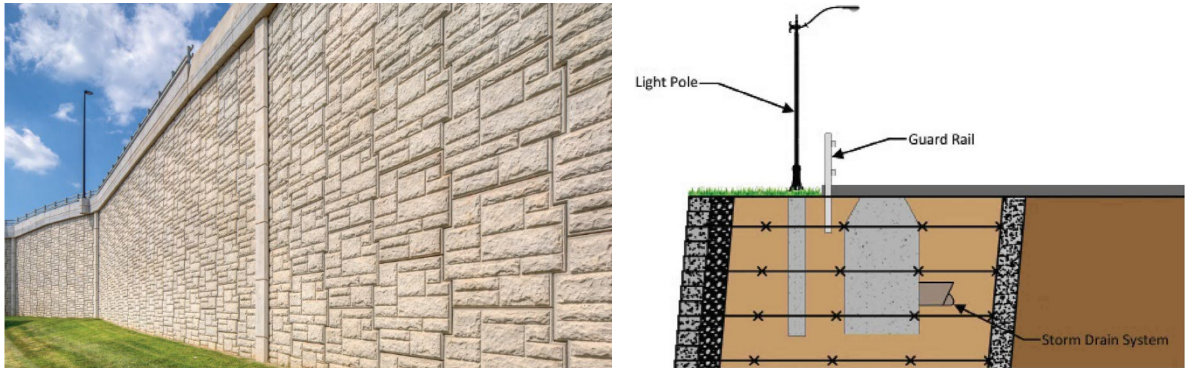

Figure 1: Examples of MSE walls
2. **Background** – MSE walls have roots to prehistoric builders who used sticks and branches to reinforce soil structures. The modern use of reinforced soils dates to the 1960s and French architect Henri Vidal's development of the Reinforced Earth® system. In the US, the first MSE wall was built on California SR-39 near Los Angeles in 1971. Sometimes the construction of MSE walls must account for underground utilities, tunnels or other obstructions (Figure 1). This year's competition will model these obstructions requiring teams to design and construct an MSE wall around a proposed tunnel.